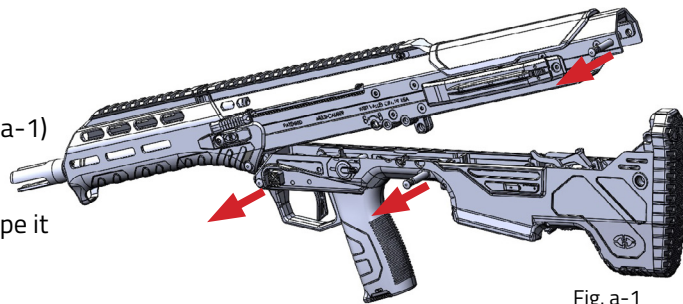

Fig. a-1
1. Separate the upper receiver from the lower receiver by popping out the three (3) captured takedown pins. (Fig. a-1)